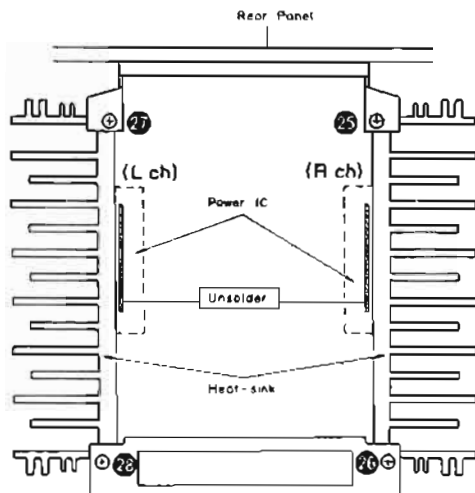

Fig. 3
2. Unsolder of power IC for left channel or right channel. (Fig. 3)
3. Remove the 2 setscrews (Fig. 3: ⑳ ~ ㉑) (left) or ㉒ and ㉓ (right)) of the chassis.